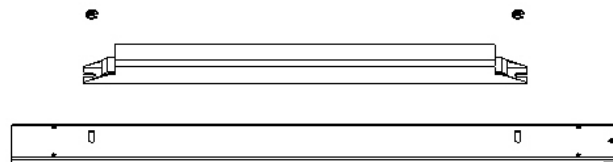

Fig. 9
4. Flip the cover plate to reveal the driver underneath. Remove two #10 nuts securing the driver. (Fig. 9)